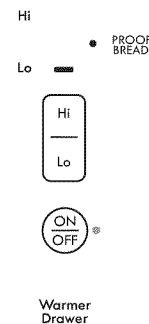

Figure 29: Bread Proof indicator light
4. Press Lo again to activate Proof Bread feature. The Proof Bread indicator light will glow when the Proof Bread feature is active (Figure 29).